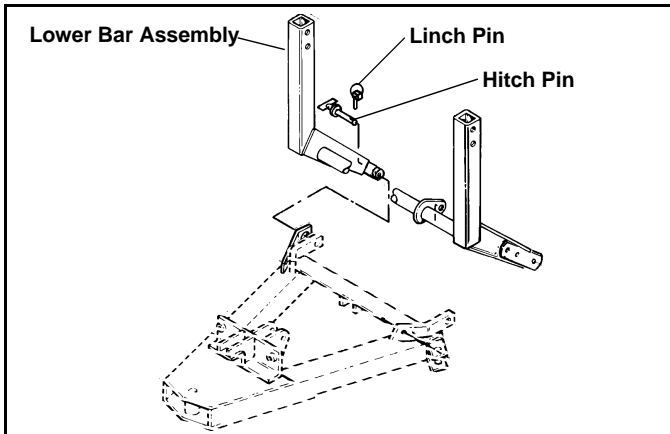
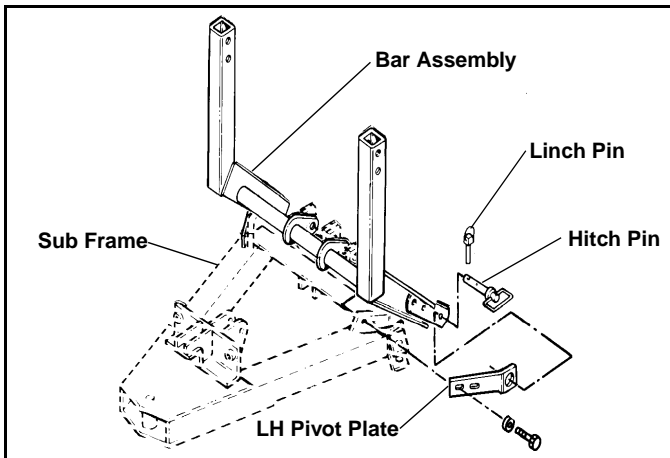

Figure 3
Figure 4
6. Mount Lower Bar Assembly to Main Plow Frame by sliding bosses on Pivot Bars into holes on Pivot Plates. Use long Hitch Pins (#31) to locate and secure. Reuse Linch Pins.(See Figure 3)(See Figure 4)